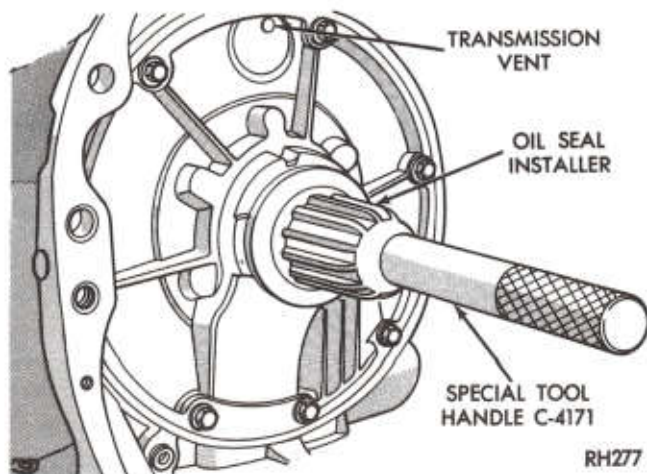

Fig. 4—Install Pump Seal
(2) **A-904T and A-999:** To install a new seal, place seal in opening of the pump housing (lip side facing inward). Using Tool C-4193 and handle Tool C-4171, drive seal into housing until tool bottoms (Fig. 4).